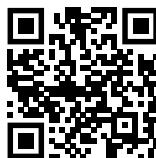

Fig. 82
- ▶ Otevřete Liebherr SmartMonitoring Dashboard. (viz Fig. 82)